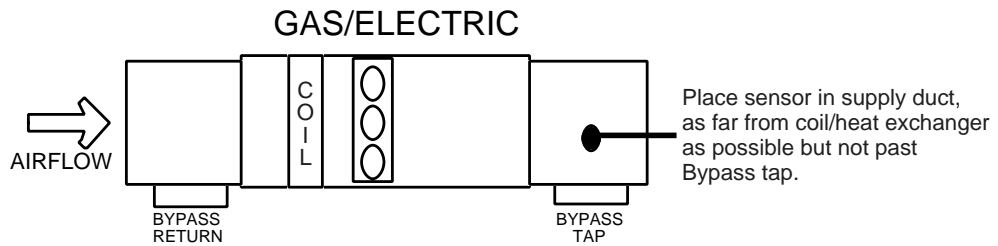

Figure 1. Sensor Location
- A. Select location to place sensor. For gas/electric HVAC systems, sensor must be in leaving air duct, preferably as far from the coil/heat exchanger as possible but not past the bypass tap. For heat pumps, sensor must be placed between coil and auxiliary heat. If heat pump does not have auxiliary heat, place sensor as specified for gas/electric system. **See Figure 1.**